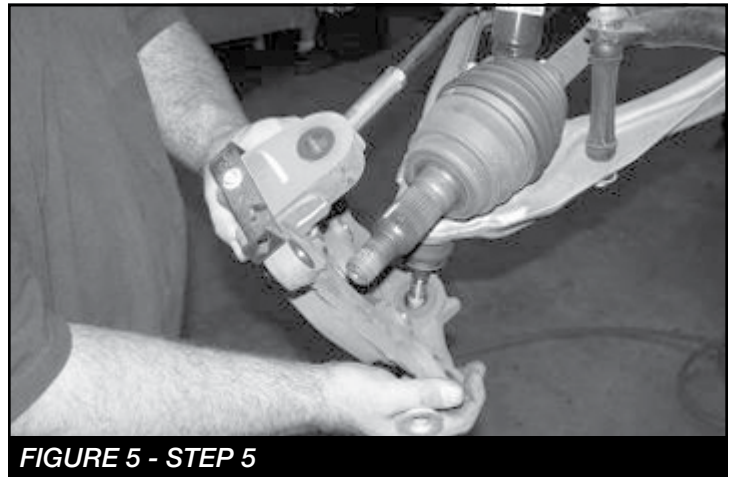

FIGURE 5 - STEP 5
5. Remove the upper and lower ball joint nuts. Disconnect the upper and lower ball joints from the steering knuckle by striking the knuckle with a large hammer next to each ball joint on the knuckle to dislodge the ball joints. Use care not to hit the ball joints when removing. Save nuts and discard knuckle. **SEE FIGURE 5**